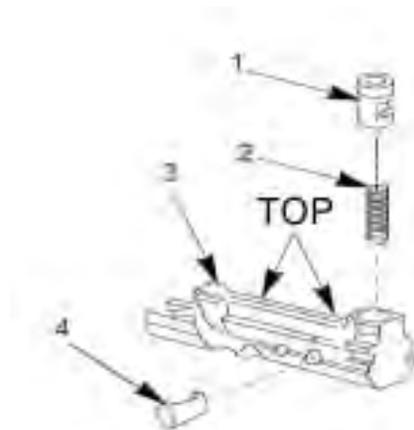

Figure 5. Slide Body , Roller Assembly, Spring, Pivot Slide.
1. Thoroughly clean slide body (Figure 5, Item 3) using CLP MIL-PRF -63460 (WP 0050, Item 3) and wipe dry with rag. Slide body must be oil free of oil, dirt, corrosion and carbon prior to inspection.
2. Inspect slide body (Figure 5, Item 3) for cracks using inspection pentrant. Inspect top of slide body (Figure 5, Item 3) for bulges caused by cookoff. cracked or bulged, replace..
3. Inspect feed roller assembly (Figure 5, Item 1). It must rotate freely. Replace if bent, broken or does not rotate freely..
4. Replace spring (Figure 5, Item 2) with new spring.
5. Visually inspect pivot slide (Figure 5, Item 4). Replace if broken or cracked.